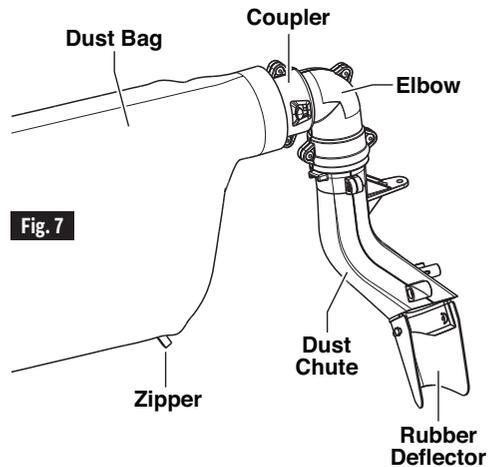

Fig. 7
**Cleaning Dust Bag** – After the dust bag is 2/3 to 3/4 full, remove it from the saw. Bring the bag to a proper container and pull open the zipper located on the bottom of the bag. Hold the bag by the coupler end and shake it vigorously until all the dust and debris fall from it. Close zipper and reattach the bag. NOTE: Clean the bag at the end of the cutting session and before transporting or storing the saw (see Figure 7).